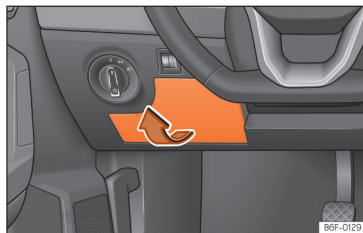

Fig. 161 On the dashboard on the driver side: lid of the fuse box.
- **Open:** remove the fuse box cover in the direction indicated >>> **Fig. 161.**